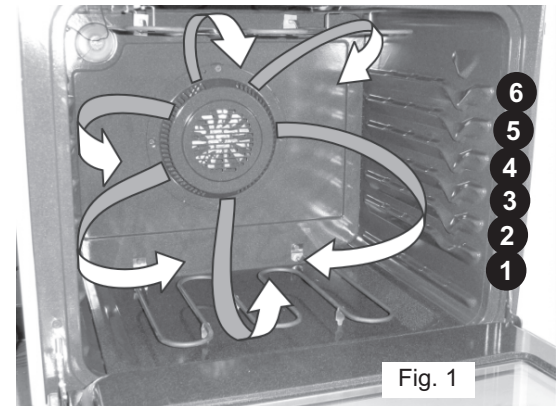

Fig. 1 - Air circulation of Convection Cooking
Convection baking uses a fan to circulate the oven's heat evenly and continuously within the oven (See Fig. 1). This improved heat distribution allows for even cooking and excellent results using multiple racks at the same time. Foods cooked on a single oven rack will generally cook faster and more evenly with Convection Bake. Multiple oven rack cooking may slightly increase cook times for some foods, but the overall result is time saved. Breads and pastries brown more evenly.
3. When using Convection Bake with a single rack, place oven rack in position 3 or 4. If cooking on multiple racks, place the oven racks in positions 1, 3 and 6 (for 3 racks) and positions 2 and 5 (See Fig. 1).
1. Arrange interior oven racks and place food in oven (See Fig. 1).